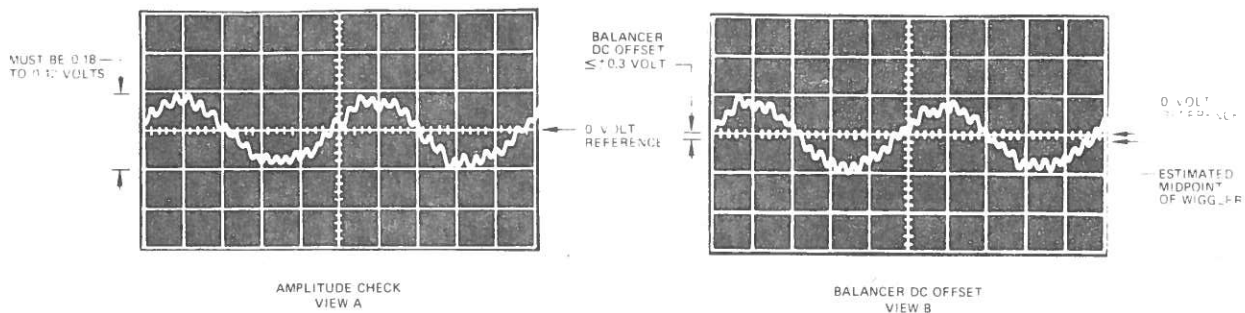

Figure 6-20. Wiggler Amplitude Check, Added Positions 1 and 2 Signal
2. With the drive operating on track, observe peak-to-peak amplitude of combined position 1 and 2 signal. Amplitude of ideal 40-Hz sine wave should be within range of 0.18 to 0.42 volts peak-to-peak. See figure 6-20.
**NOTE:** The signal observed may not approach an ideal sine-wave appearance as well as shown in figure 6-20, view A. Therefore, the observer must extrapolate and estimate a mean peak-to-peak amplitude.